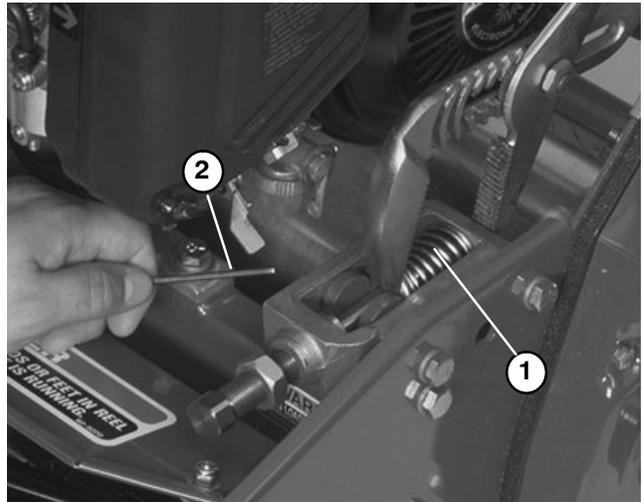

Figure 32
Use caution when removing the bedbar. Adjusting screw springs are under tension and could release suddenly (Fig. 32).
5. Compress spring with channel lock pliers. Remove pin from both frame adjusters. (Fig. 32).